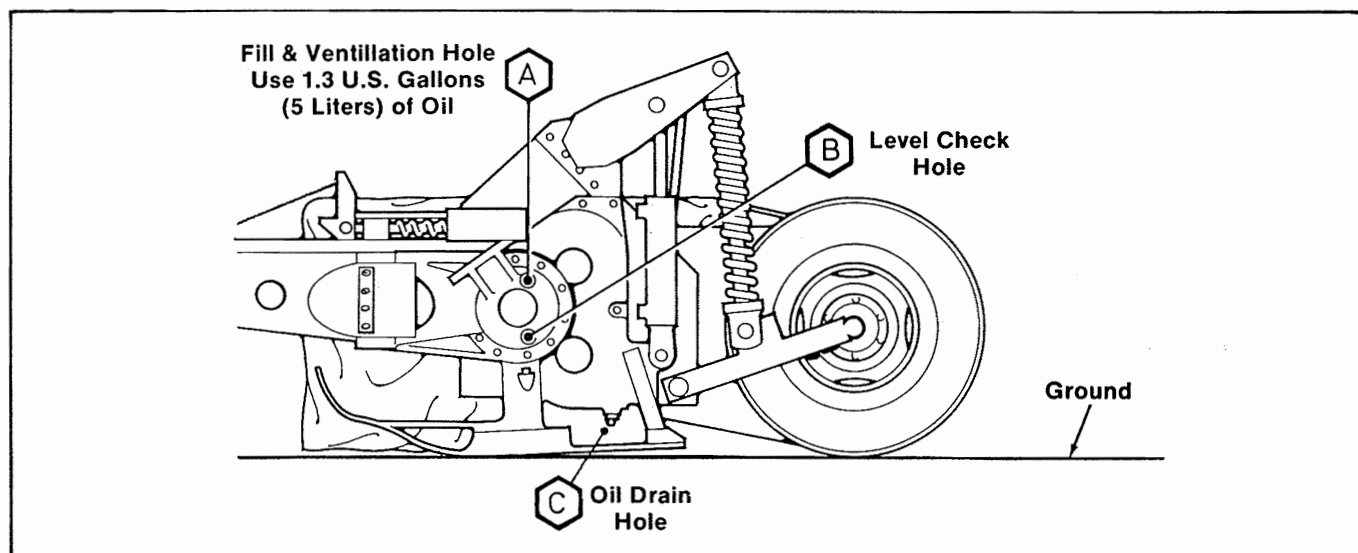
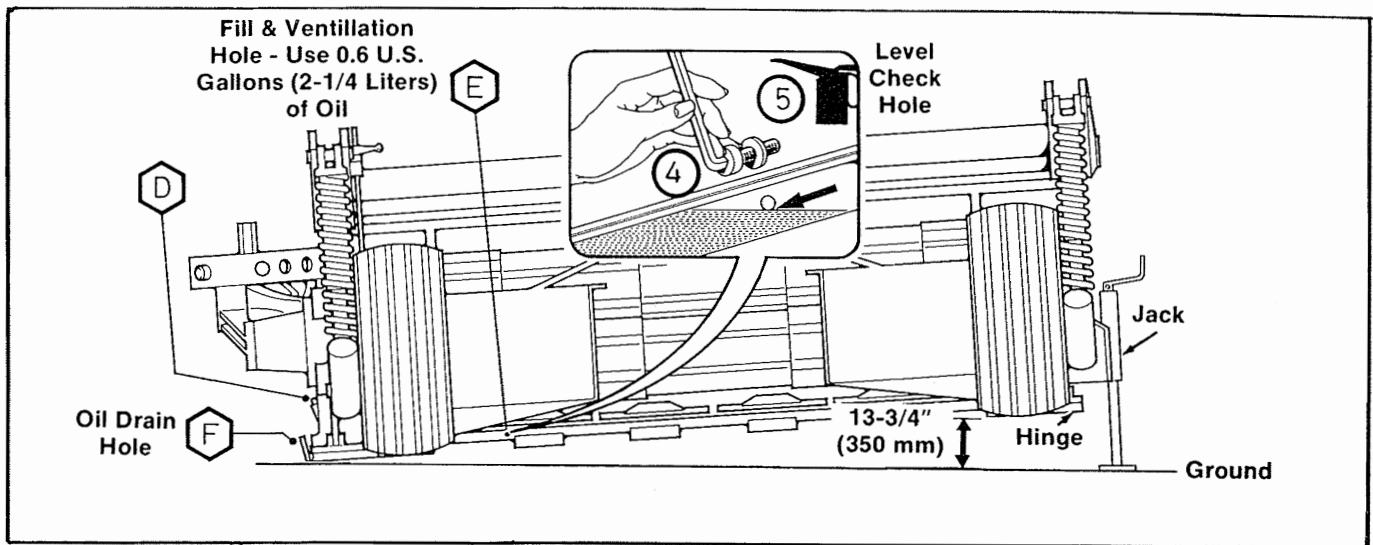

Fig. 27: Gearbox Plug Locations
Fig. 28: Cutterbar Plug Locations
The Disc Conditioner Gearbox is provided with Plug A for filling and ventilation (Fig. 27), Plug B for checking the oil level (which should be maintained at approximately 1.3 U.S. Gallon or 5 liters) and Plug C for draining the oil. The Cutterbar is provided with Plug D (Fig. 28) for filling, Plug E for checking the oil level (which should be maintained at approximately 0.6 U.S. Gallons or 2.25 liters) and Plug F for draining the oil.
Leave the Conditioner stand overnight and the oil will settle. Then, in the morning check if the oil level has reached the plug opening (E) (Fig. 28). Replenish the oil level if necessary.